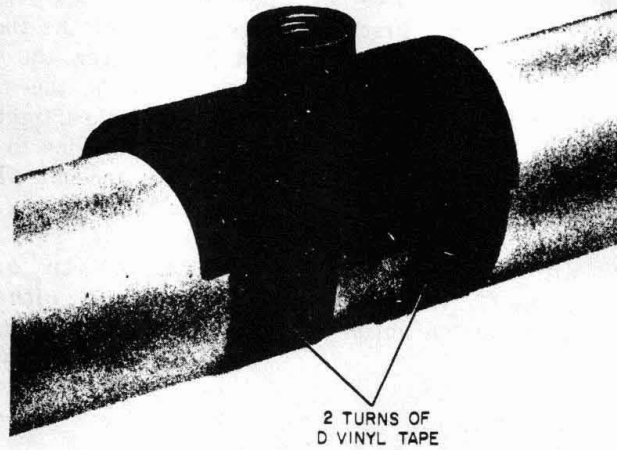

Fig. 9—F Pressure Flange Saddle Taped to Cable
(7) Hold the flange in place with two turns of vinyl tape on each side of the flange and remove the orange stick (Fig. 9).
(8) Open the two sealing clamps and place loosely around the cable on each side of the prepared sheath area.